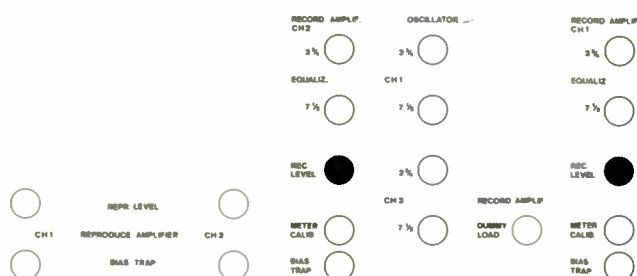

Fig. 6.5-72
- Switch to NAB and adjust REC LEVEL trim pots (fig. 6.5-72) to obtain 200 mV at OUTPUT terminal, playback mode switch to CH 1 or CH 2 respectively.